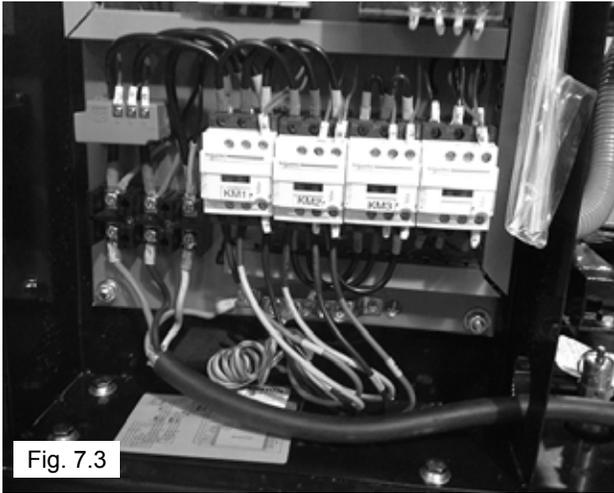

Fig. 7.3
2. Route the power cable through the bottom of the Power Control Box and to the Terminal Block as shown below. (See Fig. 7.3 )